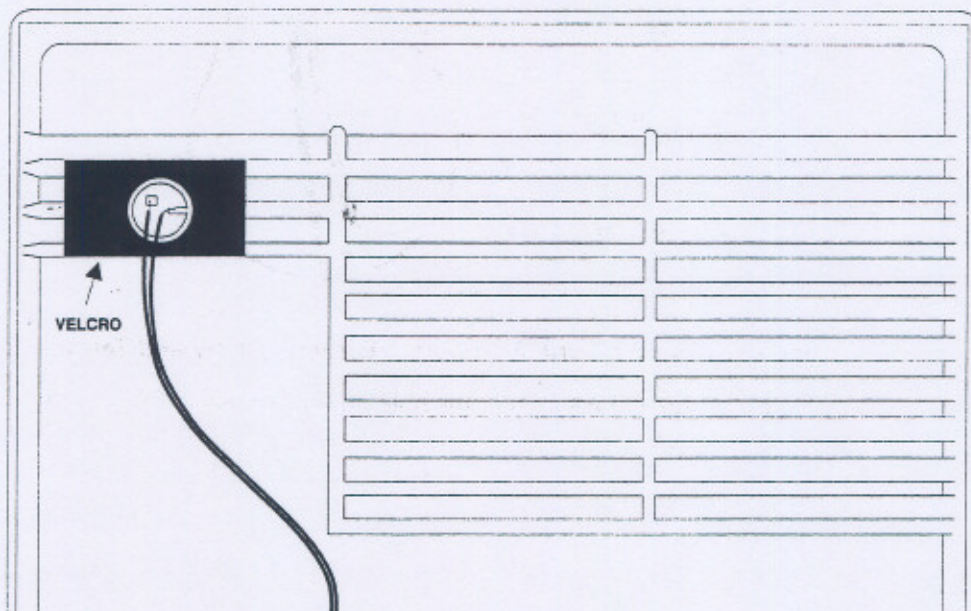

Figure 2.14 Installing the Microphone in the Cover
5. Install the microphone inside the speaker cover by pressing it into the velcro (see Figure 2.14).